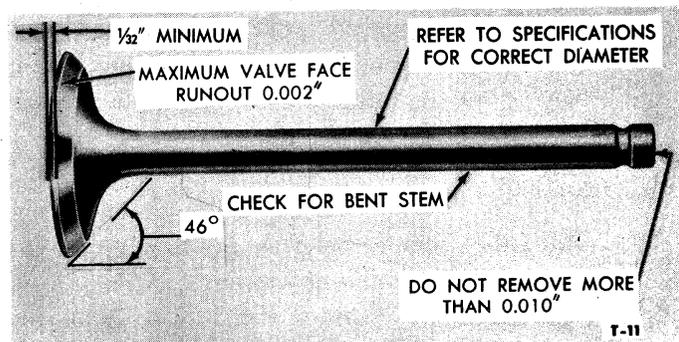
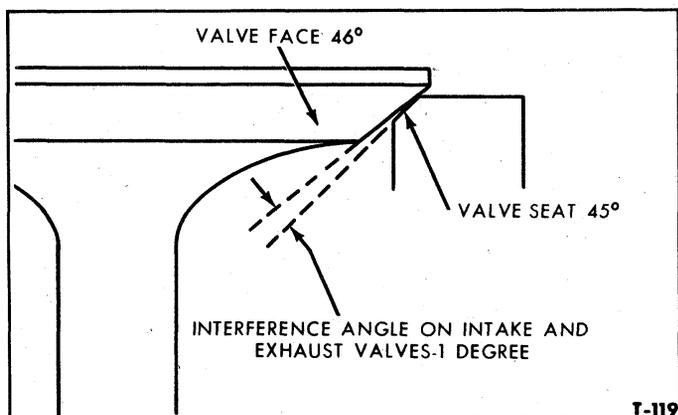

Figure 18—Critical Valve Tolerances
Figure 22—Interference Angle on Valve Face
2. Discard burned, cracked or warped valves that show any evidence of heat checks on the face of the valve, or that have a head margin of less than $\frac{1}{32}$ " after being refaced, Figure 18. Reface all valves.
3. The valve refacing operation should be closely coordinated with the valve seat refacing operation so the finished angle of the valve is 1° more than the valve seat to provide an interference angle for better seating, Figure 22. Be sure that the refacer grinding wheel is properly dressed and the valve is set at 46° to the wheel, Figure 22. Remove only enough stock to clean up the pits and grooves. Check the edge of the valve head; if less than $\frac{1}{32}$ margin as shown in Figure 18, replace the valve. Grind off all groove or